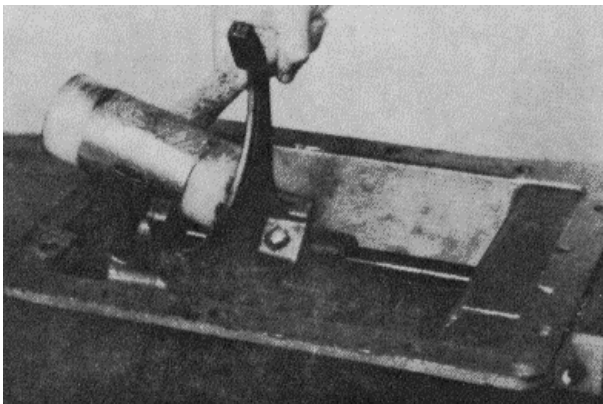

Figure 9B-45. Driving Out Piston Rod
10. Remove the setscrew holding the shift fork to the piston rod. Take the shift fork from the piston rod, Figure 9B-46. The internal piston with the front external piston can be removed from the end of the rod. Remove the 1 st-2nd speed piston rod with the piston rod brass bushing from the housing.